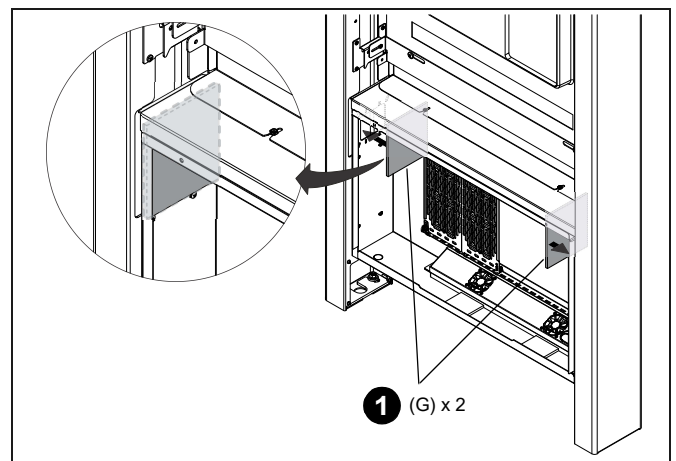

Figure 16
- Place two large filters (G) over the large openings in the sides of the kiosk frame in the enclosed storage area. (See Figure 16)